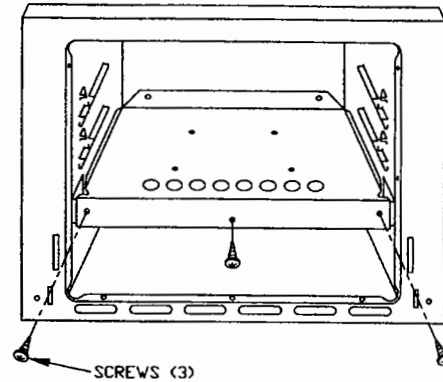

Figure 7
To Remove: When cool, remove the oven rack. Then remove the three (3) screws on the front flange of oven bottom. Hold the oven bottom firmly and slide it out of the oven. See Figure 7.